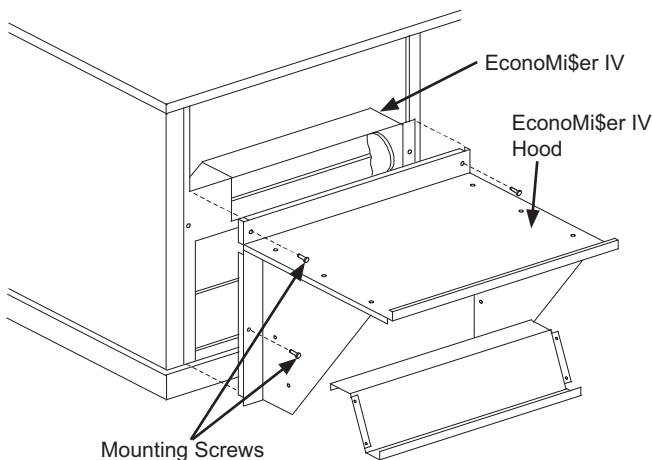

Fig. 11 — EconoMi\$er IV Hood Installation
16. Install the EconoMi\$er IV hood over the EconoMi\$er IV system. Use screws provided. (See Fig. 11.)